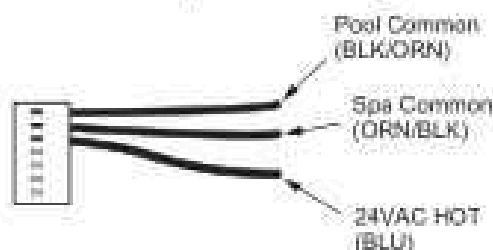

Figure 31. 7-Pin Remote Interface Harness
The P-156 heaters are equipped with the ability to work with external remote controls. The P-106 is not equipped for remote operation. The supplied 7-pin remote wiring connector supplies power out to either a toggle switch or the switch contacts of a third-party remote. See Figure 31. The remote works by either making or breaking the circuit created by the remote wiring. Typically, a remote does not supply power to the heater, it only provides a switching function to turn the heater On or Off. If your remote is supplying its own voltage to the heater, it will not work with this heater and may damage the digital circuit board.
5. On the "Remote Interface Harness", connect the BLUE wire to one side of the "REMOTE" switch and connect the other side to either the ORANGE/BLACK wire for "SPA" operation or the BLACK/ORANGE wire for "POOL" operation. See Figure 31.
5. On the "Remote Interface Harness" connect the BLUE wire to one side of the "REMOTE" switch and connect the ORANGE/BLACK wire for "SPA" operation and the BLACK/ORANGE wire for the "POOL" operation. See Figure 31.